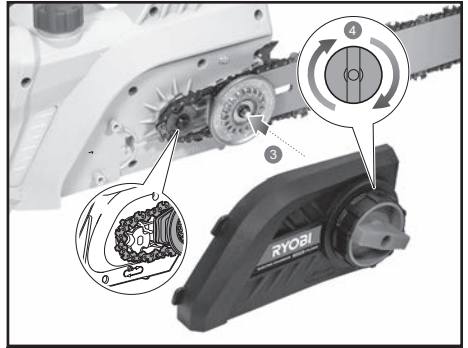

Fig. 3
Hold the chain in position on the bar and place the loop around the drive sprocket, Fig.3. Lower the bar so that the bolt goes through the hole in the attached chain tension assembly (3). You may need to rotate this assembly so the bolt and hole align. You may rotate this assembly again to apply some tension to the chain which will help keep it in place.
Replace the sprocket cover and turn the guide bar locking knob until nearly tight, Fig.3 (4).